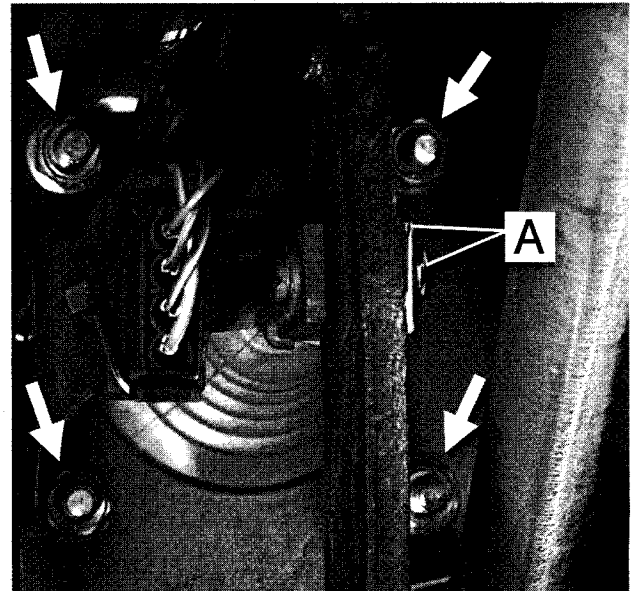

Fig. 13. Brake pedal clevis pin and retaining clip (A). Brake booster mounting nuts shown at arrows.
9. Remove clip and clevis pin from brake booster pushrod and disconnect it from brake pedal. Remove brake booster mounting nuts. See Fig. 13.